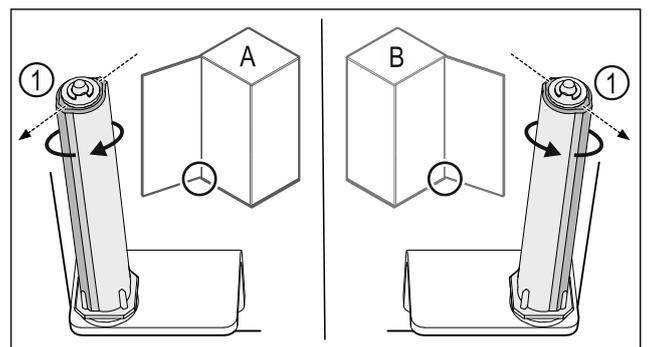

Fig. 29 Left-hinged (A) / Right-hinged (B)
- ▶ Turn the closing system against the resistance until the bar of the closing system Fig. 29 (1) points outwards.